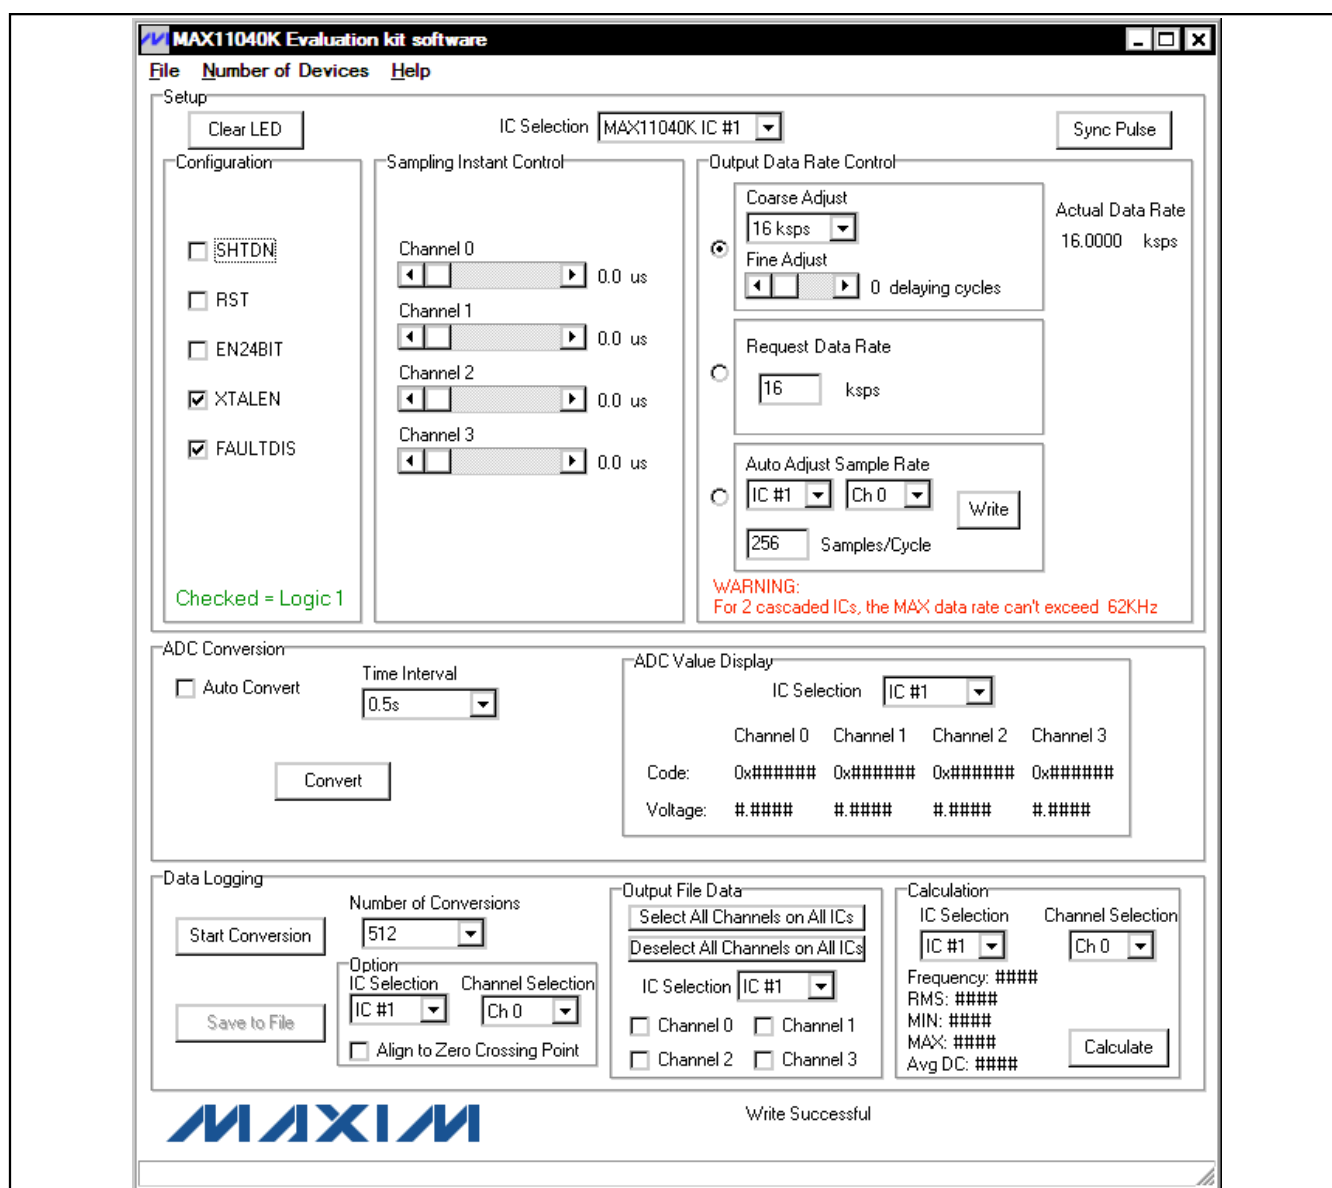

Figure 1. MAX11040K EV Kit Main Window
- 12) Wait until the program automatically detects the MAX11040K hardware and displays the user-interface panel (Figure 1).
The MAX11040K EV kit's main window is shown in Figure 1. The **Setup** group box, located at the top of the window, contains **Configuration**, **Sampling Instant Control**, and **Output Data Rate Control** group boxes. Functions related to reading single-sample ADC values in the **ADC Conversion** group box are located in the middle section. Data-logging functions and data calculation are in the **Data Logging** group box, located at the bottom of the main window.
There are four LED indicators (D1–D4) on the daughterboard. D1 and D2 LEDs reflect the real-time logic levels on the $\overline{\text{FAULT}}$ and the $\overline{\text{OVRFLW}}$ pins, respectively. D3 and D4 LEDs latch on the fault conditions on the $\overline{\text{FAULT}}$ and the $\overline{\text{OVRFLW}}$ pins, respectively. When D3 or D4 is turned on, press the **Clear LED** button in the EV kit software (Figure 1) or press the on-board pushbutton (S2) to turn off the LEDs after the faults are cleared. All IC $\overline{\text{FAULT}}$ and $\overline{\text{OVRFLW}}$ pins are open drain and respectively connected in a wired-ORed configuration.